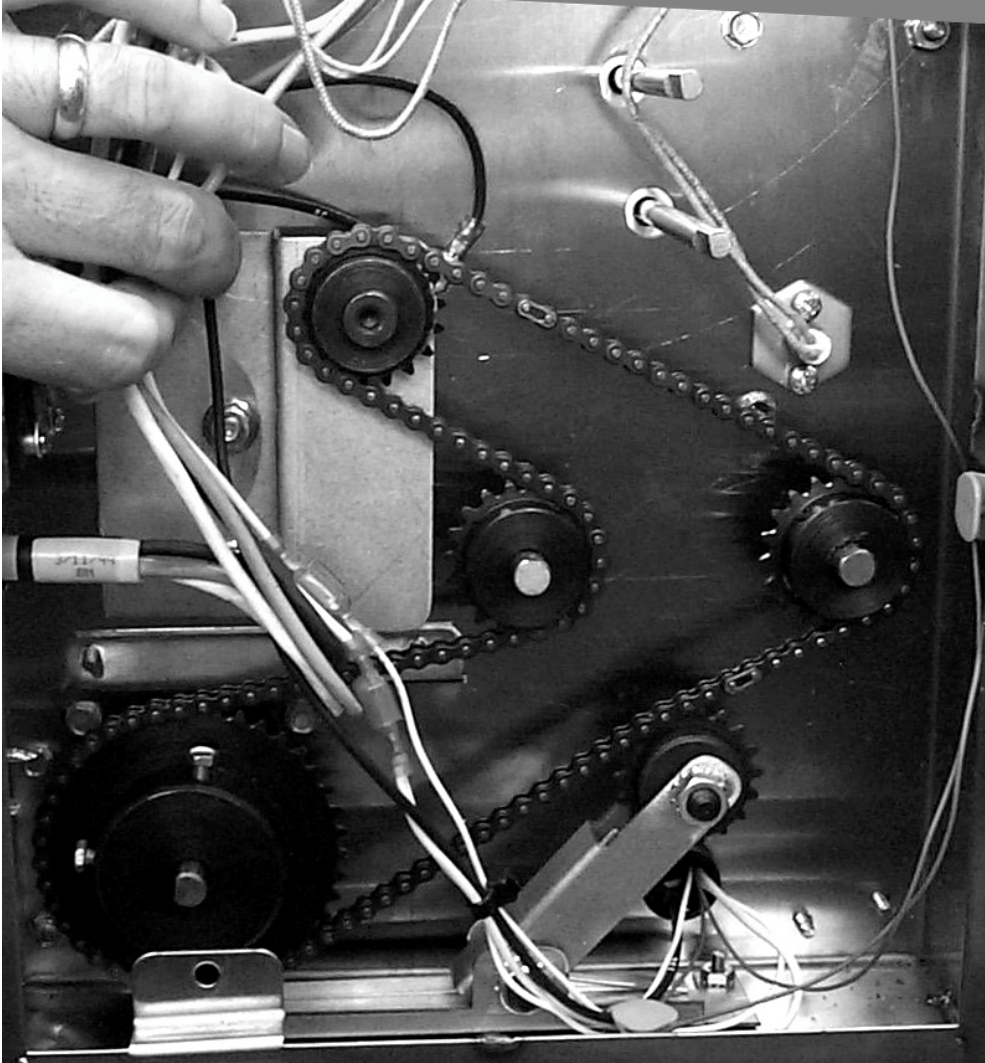

Fig. 6: The chain must be routed in this path. The sprockets must all be the same distance from the cabinet wall to ensure the chain runs in a flat plane.
- Route the chain as shown in Fig. 6.